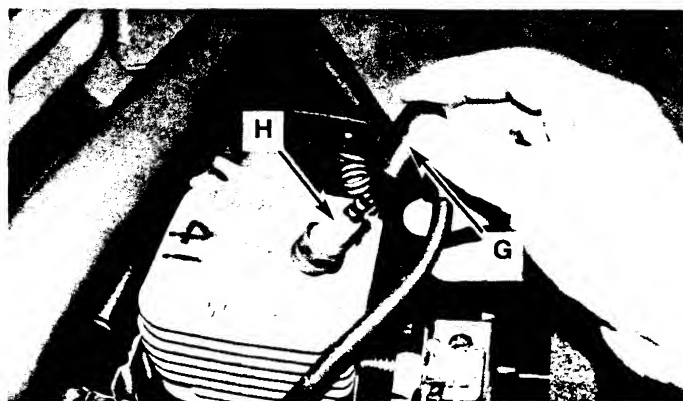

Fig. 30
3. Disconnect the wire connector (G) from the spark plug (H) by pulling and twisting at the same time (Fig. 30).